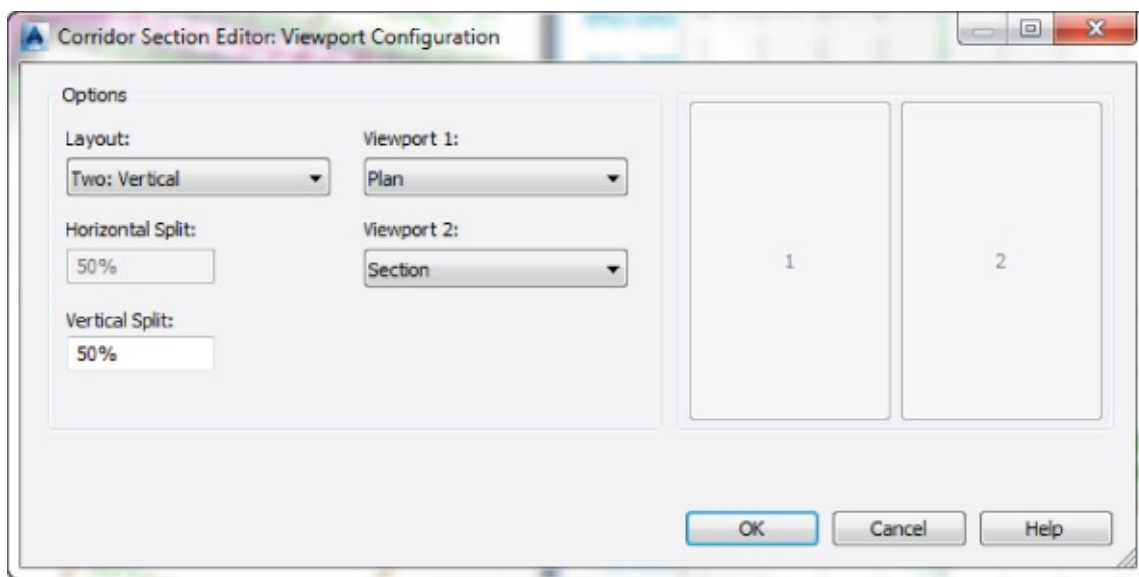

Figure 9.37 The Corridor Section Editor: Viewport Configuration dialog
3. From the Section Editor contextual tab ► View Tools panel choose Viewport Configuration to display the Corridor Section Editor: Viewport Configuration dialog, as shown in Figure 9.37.